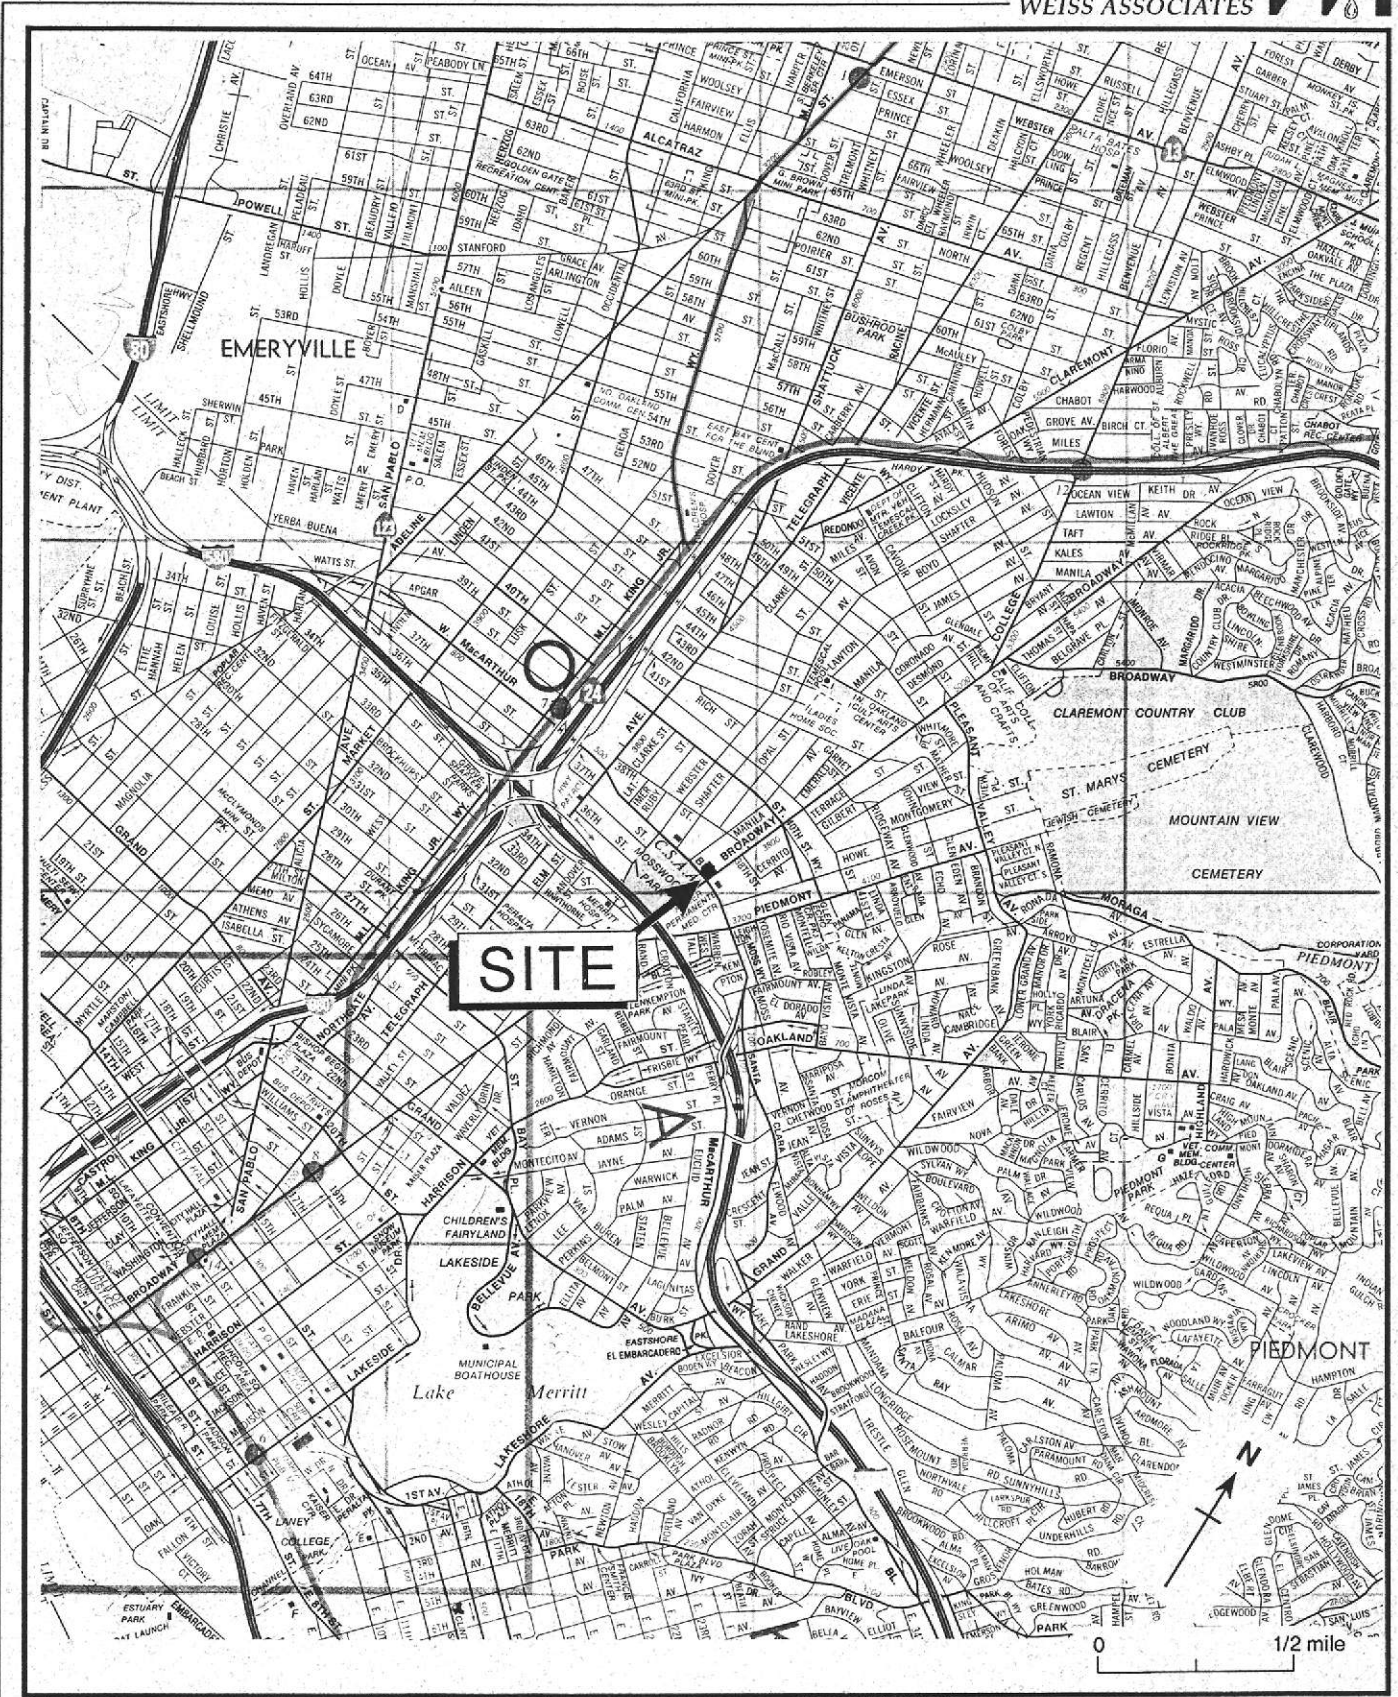

Figure 1. Site Location Map - Former Chevron Service Station #9-1026, 3701 Broadway, Oakland, California
As you requested, Weiss Associates (WA) is providing this Ground Water Monitoring Report for the site referenced above (Figure 1). WA sampled the ground water monitoring wells (Figure 2) on November 8, 1991, in accordance with the requirements and procedures of the California Regional Water Quality Control Board - San Francisco Bay Region and local regulatory agencies.